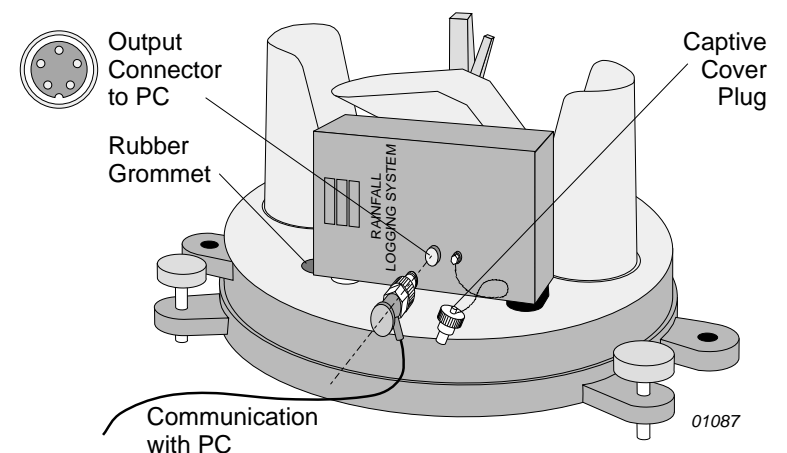

Figure 3: The logging module
3. Unscrew the captive cover plug from the output socket on the logging module (Figure 3).
4. Remove and split the rubber grommet shown in Figure 3.
8. Unscrew the captive cover plug from the output socket on the logging module (Figure 3).